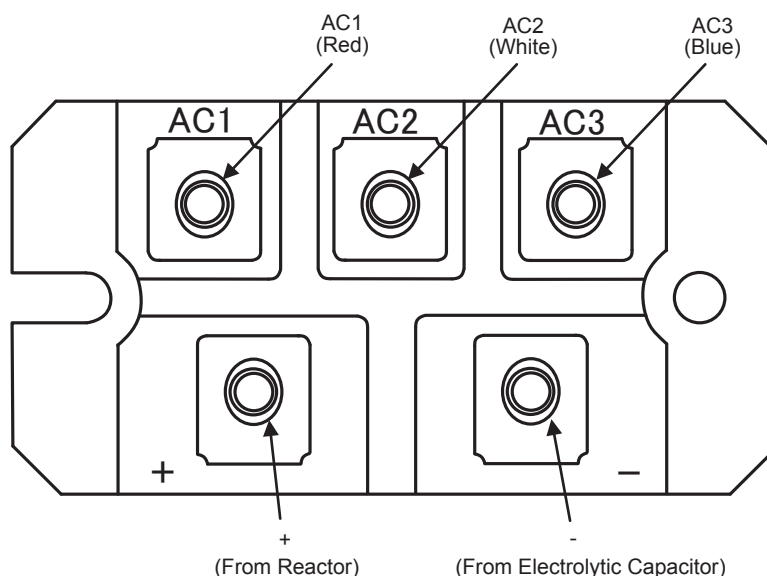

Fig.1 Parts arrangement view
6. Connect the wire to the diode module (AC1, AC2, AC3, +, -). (See Fig.1)